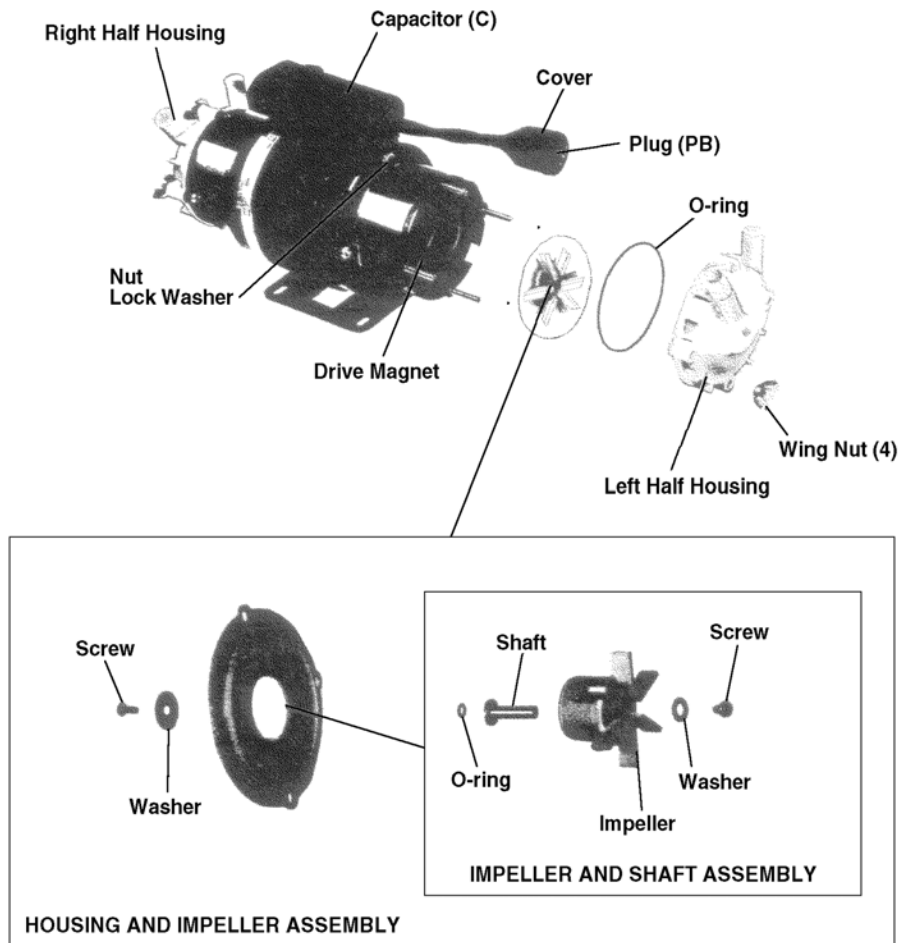

Figure 4-15. Recirculation and replenisher pump assemblies.
- NOTE:** The recirculation pump and the chemical-replenisher pump are identical except for the orientation of the pump housings. When repairing pumps, replace the O-ring. Refer to figure 4-15.
- (1) Remove the developer replenishment pump assembly.